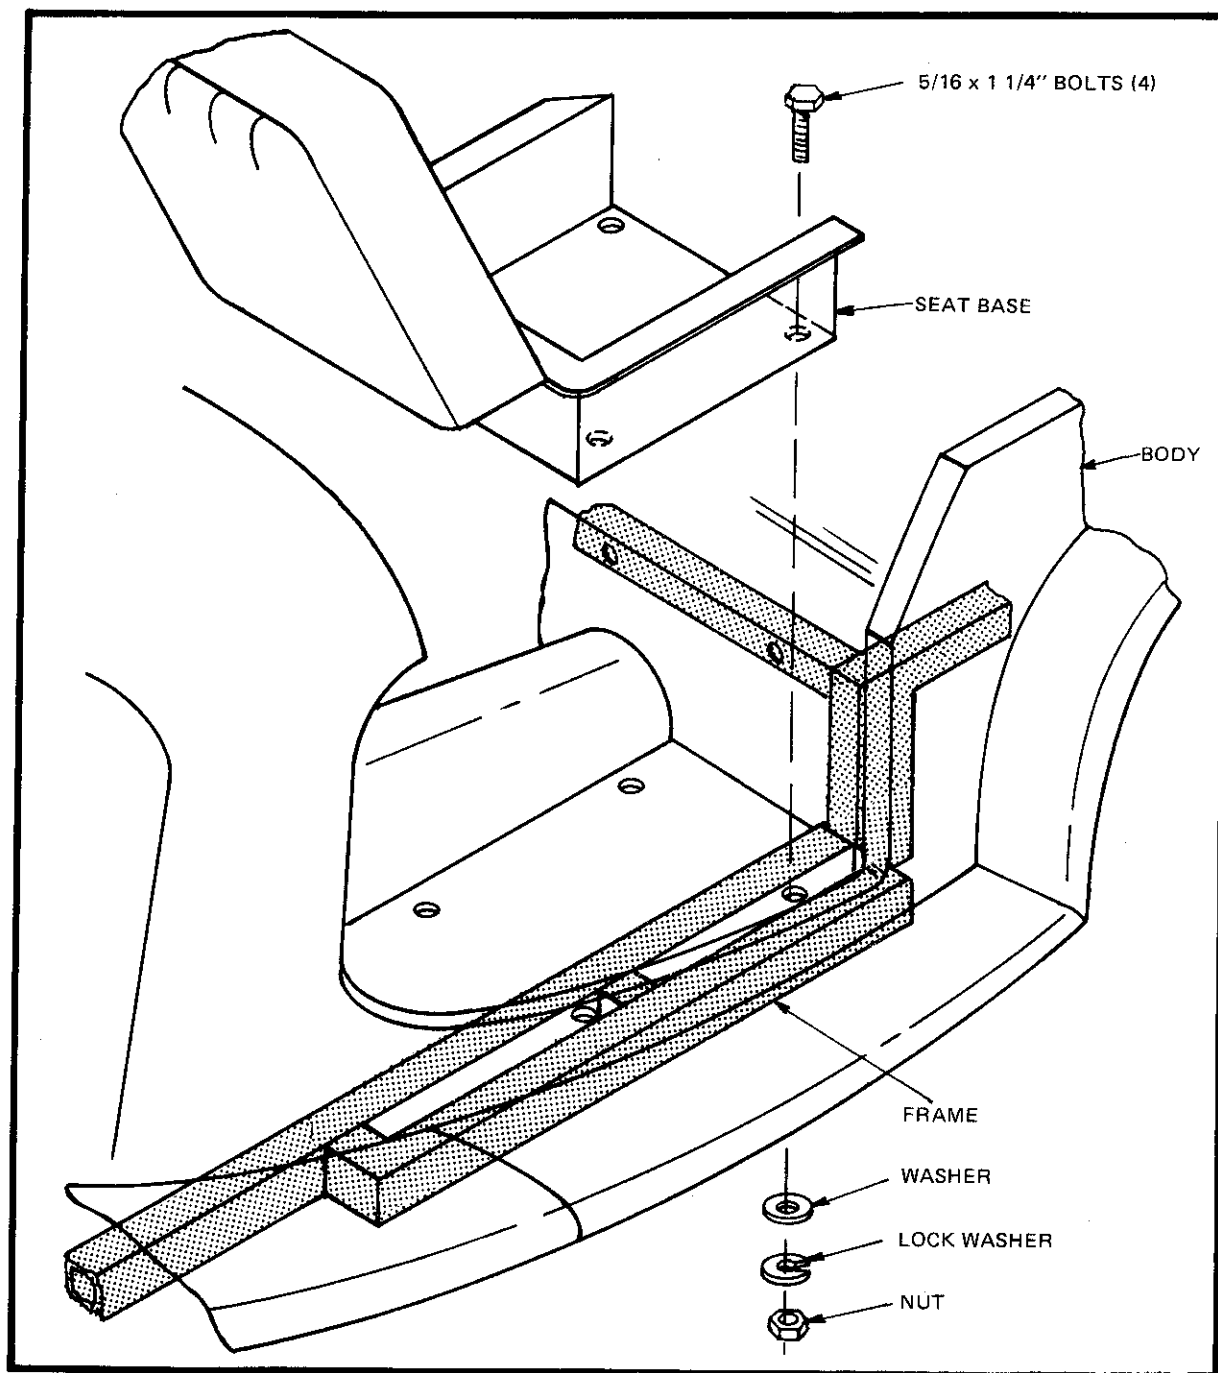

Figure 78
- ☐ Using a 3/8" drill bit, drill 4 holes through the bottom of the seat base and through the liner. The two outside bolts should pass between the two main frame rails. Bolt using 5/16 x 1 1/4" bolts with flat washers, lock washer and nut. Use a flat washer on each side to spread the load. (Figure 78)